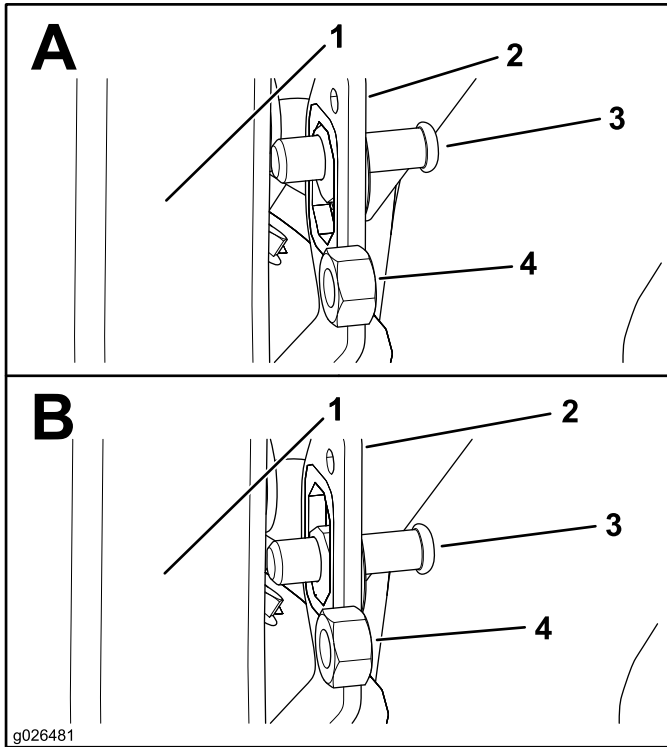

Figure 8
1. Center the latch pin in the latch-pin-mount bracket on the rail (Figure 8).
4. Tighten the hex nut (7/16 inch) once the latch pin reaches 1.9 to 2.2 cm (3/4 to 7/8 inch) as shown in Figure 8.